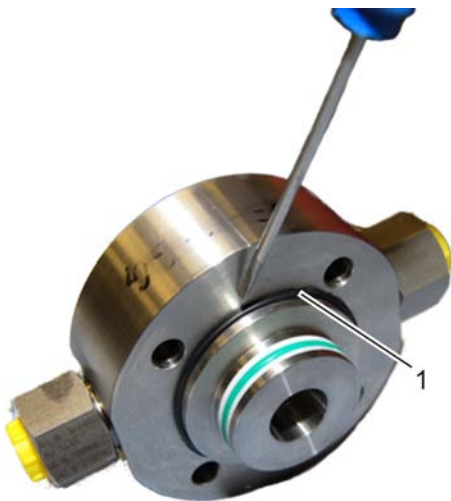

Fig. 87: Booster head seal
- 7.** ➤ Detach seal from booster head (Fig. 87/1).